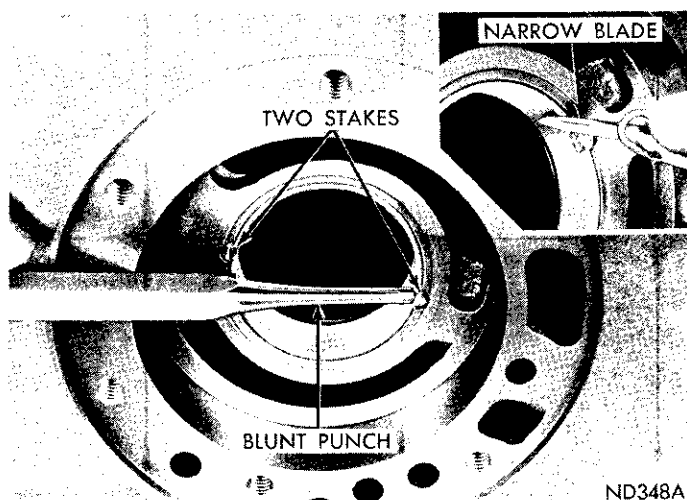

Fig. 51—Staking Pump Bushing (A-727)
(6) Drive bushing into housing until tool bottoms in the pump cavity. Be careful not to cock tool during installation.
(7) Stake bushing in place by using a blunt punch or similar tool (Fig. 51). A gentle tap at each stake slot location will suffice.
(8) Using a narrow-bladed knife or similar tool, remove high points or burrs around the staked area (Fig. 51). Do not use a file or similar tool that will remove more metal than is necessary.
(9) Thoroughly clean pump housing before installation.